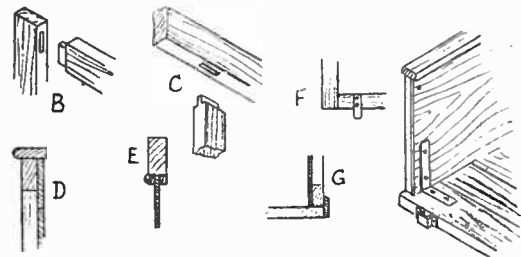

Fig. 3—Details of joints Fig. 4—Fittings for the back
to be 1 in. longer than the proper length, and then to saw off the surplus after the joints are glued up. There is no danger then of splitting the wood at the ends. The vertical intermediate bars are also tenoned in, but in this case the tenons need not be deeper than $\frac{1}{2}$ in., as at (C) Fig. 3.
Trim off the edges of the plywood to make them quite level with the top of the frames. Now prepare a few feet of wood to a section of $\frac{1}{2}$ in. by $1\frac{1}{2}$ in. and nail this to cover the top edges of both frames and plywood, all round, as in detail (D) Fig. 3. The outer edges of these pieces could be curved a little, and the meeting ends at the front made a neat fit to mitre together.